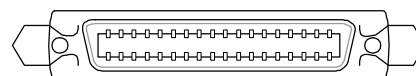

Figure 9: Sample parallel port
3. Remove the plastic guard from the parallel connector at the back of the printer (See Figure 9). Plug a parallel cable (LPT, IEEE-1284) cable into the parallel connector. The cable should be no longer than 6 feet (1.8 m). Secure the plug with the wire loops.